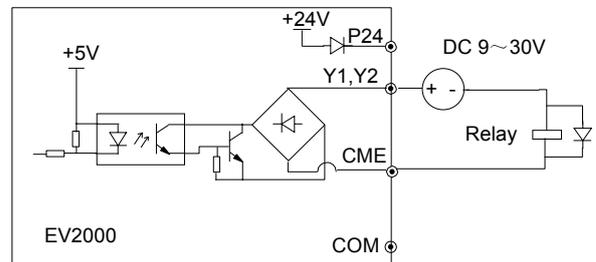

Fig. 3-29 Wire connections 2 of multi-function output terminal
② Multi-function output terminals Y1 and Y2 can also use the 9~30V power supply outside the drive and the wiring mode is shown in Fig.3-29.